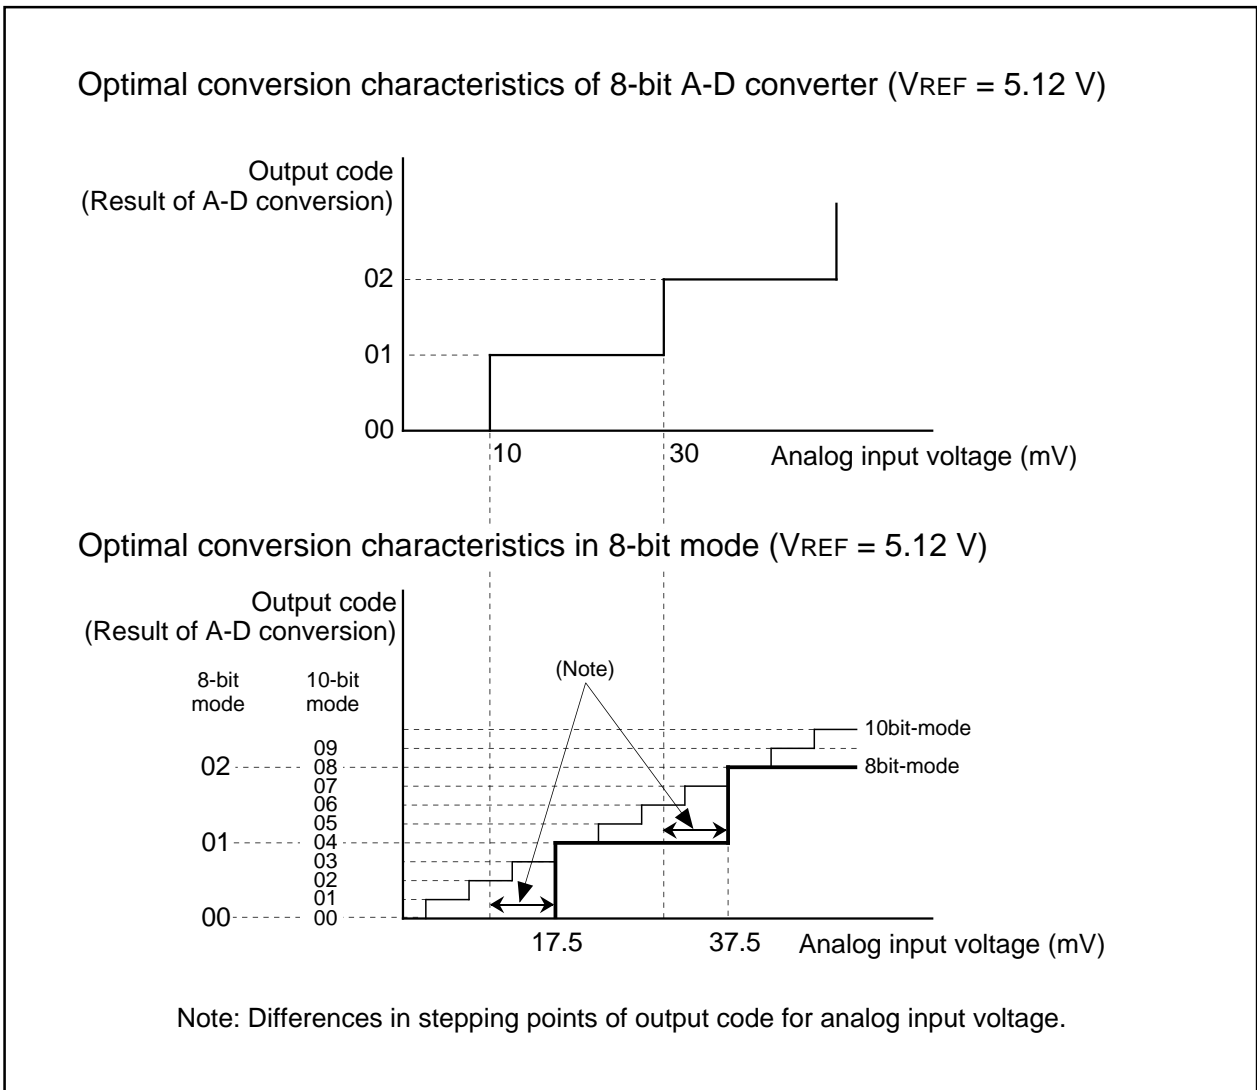

Figure 2.7.18. The level conversion characteristics of 8-bit mode and 8-bit A-D converter
(1) In 8-bit mode, 8 higher-order bits of the 10-bit successive comparison register becomes A-D conversion result. Hence, if compared to a result obtained by using an 8-bit A-D converter, the voltage compared is different by $3 V_{REF}/2048$ (see what are underscored in Table 2.7.9), and differences in stepping points of output codes occur as shown in Figure 2.7.18.